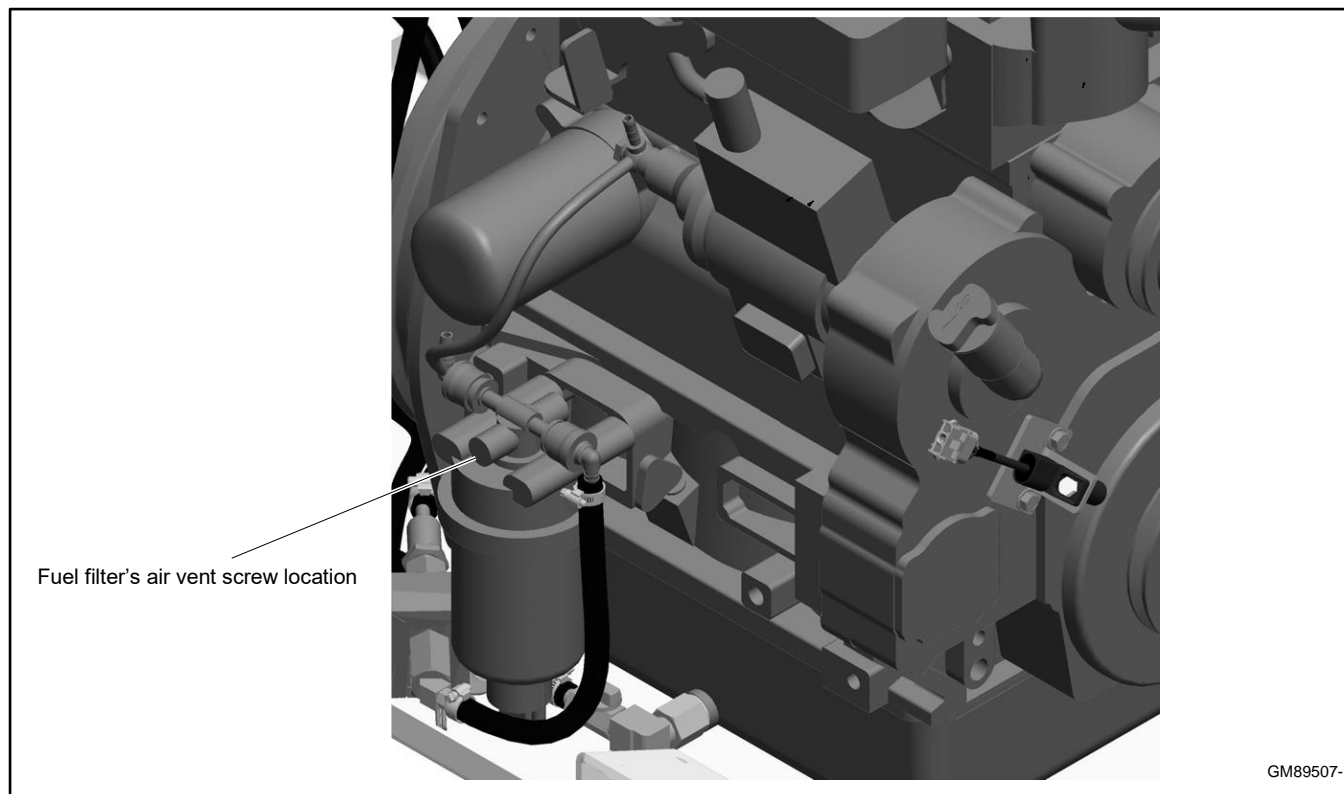

Figure 35 Fuel Filter's Air Vent Screw
1. Loosen the fuel filter's air vent screw. See Figure 35. Place a suitable container underneath to collect the fuel.